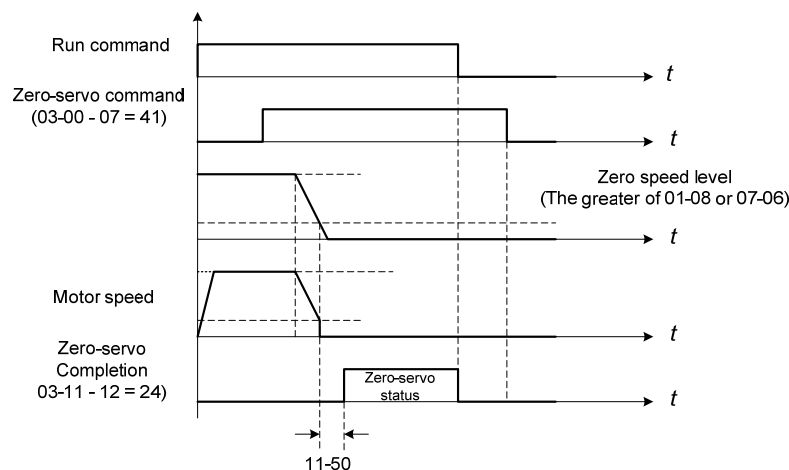

Figure 4.3.96 Zero servo operation
- Refer to the figure 4.3.96 for zero servo operation.